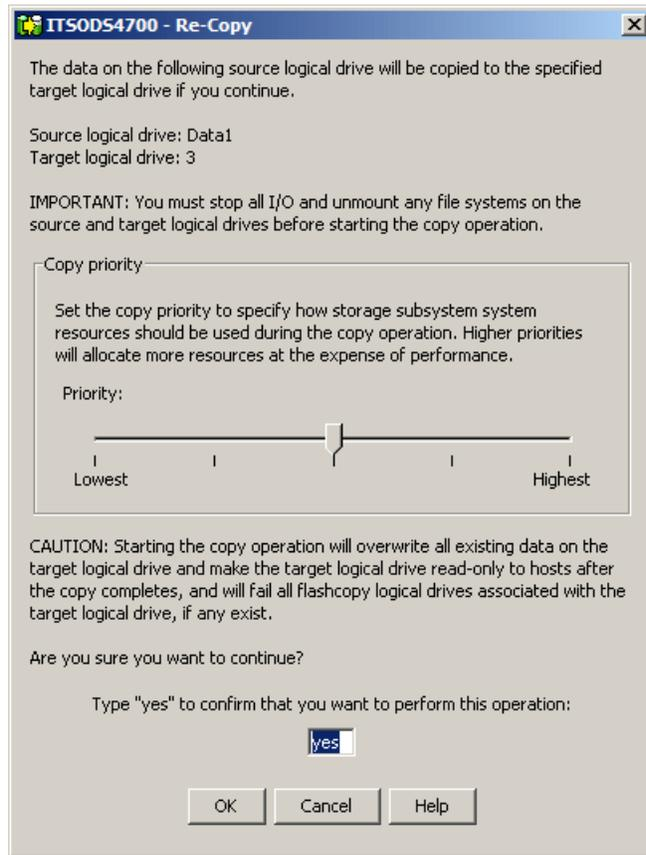

Figure 9-14 Re-copy window
5. Select either the **Copy** → **Re-Copy** pull-down menu option or **Re-Copy** from the right-mouse pop-up menu. The Re-Copy dialog is displayed (Figure 9-14).